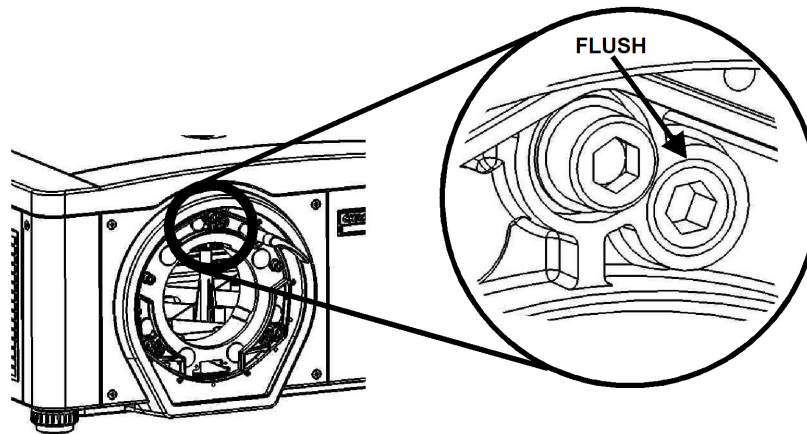

FIGURE 2-11 POSITION SETSCREW FLUSH
9. The original factory boresight can be recovered approximately by positioning the 3 setscrews (*Figure 2-10*). Position the setscrews flush with the front face of the lens mount plate and in contact with the inner lens mount plate (*Figure 2-11*). This may require adjusting both setscrews and capscrews.